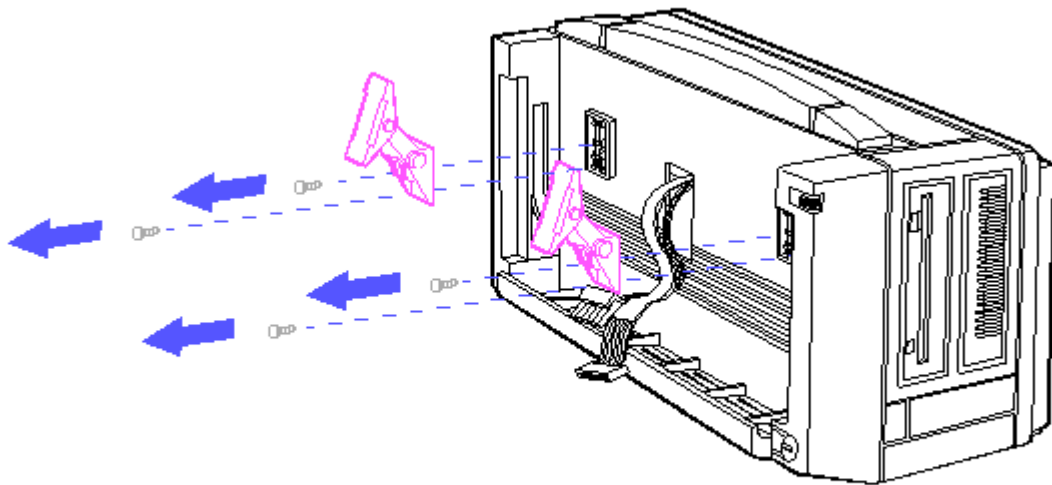

Figure 8-95. Removing the Plasma Display Hinge Screws
10. Remove the four screws that secure the plasma display hinges to the main enclosure (Figure 8-95).